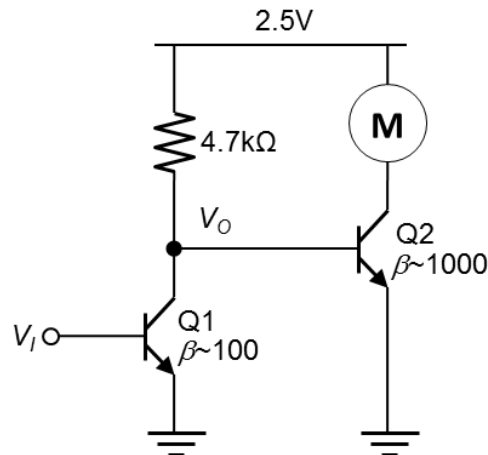
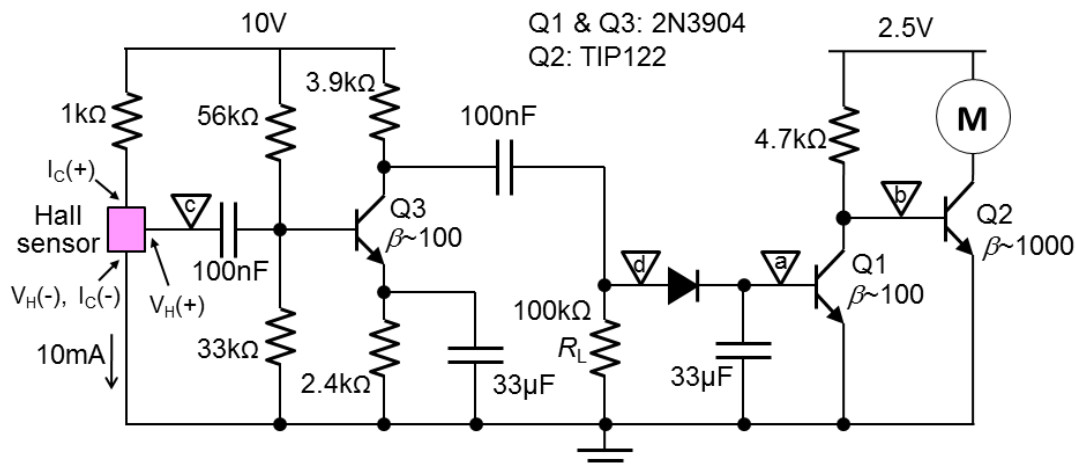

Fig. 4.4: Motor switching circuit
Fig. 4.5: Overall circuit design
- 3) Read the description of Tasks in these sheets. Note that the circuit topology here is the same as the one discussed in the reading assignment above, but the values of some of the parts are modified due to the availability. The circuit to be used (see Fig. 4.5) and the separate sensor-motor module to be connected with the circuit are provided in the lab.
- 1) The motor switching circuit is shown in Fig. 4.4 (note the voltage source has been changed from 5 V used in class to 2.5 V to limit the motor speed). First, decouple the inverter circuit (of Q1) from the diode/capacitor peak rectifier AND from the motor drive circuit (of Q2). This means that the points “a” and “b” in Fig. 4.5 are disconnected. Measure and record  $V_O$  in Fig. 4.4 when you provide 0 V (low state) and 0.7 V (high state) as  $V_I$  to Q1 – check the inverter function and the operation mode of Q1, and describe your observation.
- 2) Keep  $V_I$  to be 0.7 V. Set the distance between the rotor wheel and the plastic plate (that the sensor is mounted) to be ~5 mm. Re-connect  $V_O$  to the Base of Q2 (i.e., reconnect the point “b” in Fig. 4.5). Connect a 2.5-V power supply to the motor circuit. Vary  $V_I$  between 0.7 V and 0 V and check if powering to the motor is controlled as you expect. **When you reduce  $V_I$  towards 0 V, do it with caution because the motor/wheel will start to rotate rapidly.** Describe your observation. After the measurement, turn off the 2.5-V supply.
- 2) A sensor signal produced by rotating magnets appears as a series of pulses. First, decouple the sensor output  $V_H(+)$  from the 100-nF DC blocking capacitor (i.e., disconnect the point “c” in Fig. 4.5). Apply 0 V to  $V_I$  of Q1 and turn on the 2.5-V supply (the wheel starts to rotate). Using an oscilloscope, measure and record the signal generated at the sensor output when the sensor is placed ~2 mm away from the rotating wheel. Sketch the waveform on the time axis while showing the approximate peak voltage level observed. The signal may not be very stable, but you can take an approximate average of the peak voltage. Repeat it when the sensor is set apart, ~5 mm away from the rotating wheel.
- 3) As noted earlier, the sensor signal needs to be amplified, rectified and filtered before being fed to the motor switching circuit. For the amplification, we use a 4-R’s CE amplifier with Q3 as shown in Fig. 4.5. Re-connect the sensor output  $V_H(+)$  to the input of the amplifier (i.e., reconnect the point “c”). Decouple the output of the amplifier from the peak rectifier (i.e., disconnect the point “d”), and measure an approximate peak level of the amplified signal at the output (at  $R_L$ ) using the oscilloscope, for the sensor-to-wheel distance of both ~5 mm and